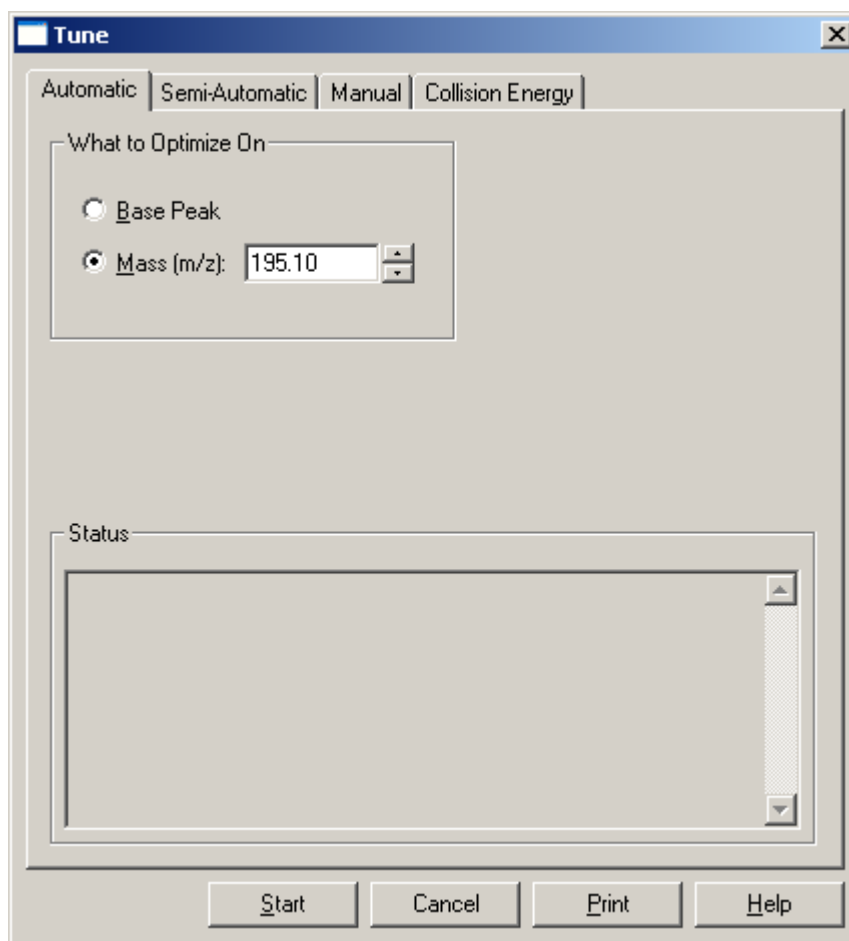

Figure 3-8. Tune dialog box, showing the Automatic tuning page
2. If necessary, click on the Automatic tab to display the Automatic tuning page. See Figure 3-8.